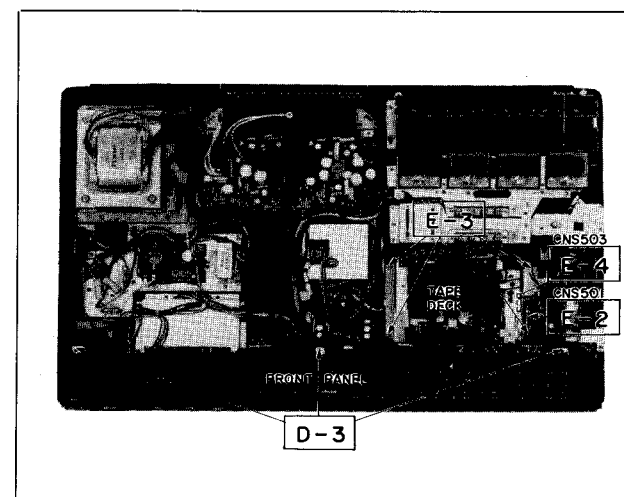

Figure 4-1
3. Remove six screws retaining the front cabinet. (Fig. 4-1 and 4-3)
E TAPE DECK REMOVAL (Refer to Figure 4-1)